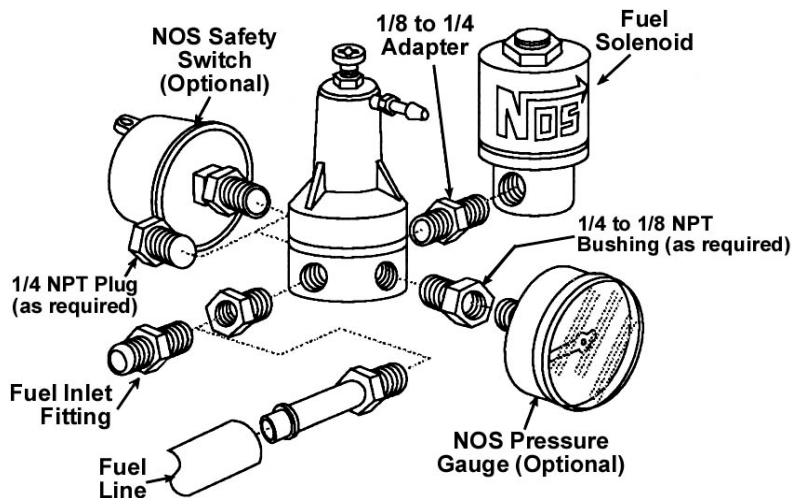
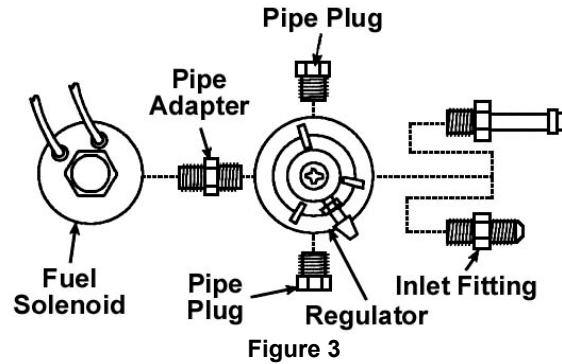

Figure 1
Figure 3
Two fittings are required to adapt the regulator in the NOS system. A 1/4 to 1/8 reducer bushing is used for inserting the fuel **IN**let line fitting and a 1/8 to 1/4 NPT adapter is used to mount the NOS fuel solenoid. The type and quantity of additional fittings and/or plugs is dependent on what (if any) optional NOS accessories are to be used in conjunction with the regulator (Figure 1).
3. One of the three remaining **OUT**let ports must be used to remount the NOS fuel solenoid (Figure 3). Insert a 1/8 to 1/4 pipe adapter fitting into the chosen port and tighten. Position the **IN**let or **P** port of the solenoid on the adapter and tighten.
4. If the optional NOS fuel pressure safety switch or fuel pressure gauge accessories are not going to be used, insert a 1/4 male pipe plug (with sealer) into each of the remaining outlet ports (2) and securely tighten.
5. If either or both of the optional NOS accessories will be utilized, insert a reducer bushing into the desired port(s). Install and tighten the gauge and/or safety switch in place (Figure 1).
- To complete the regulator installation, (re)connect both the fuel inlet line( from the pressure source) to the regulator's **IN**let port fitting and the fuel feed line (if removed) from the **OUT**let or **A** port (Figure 1).